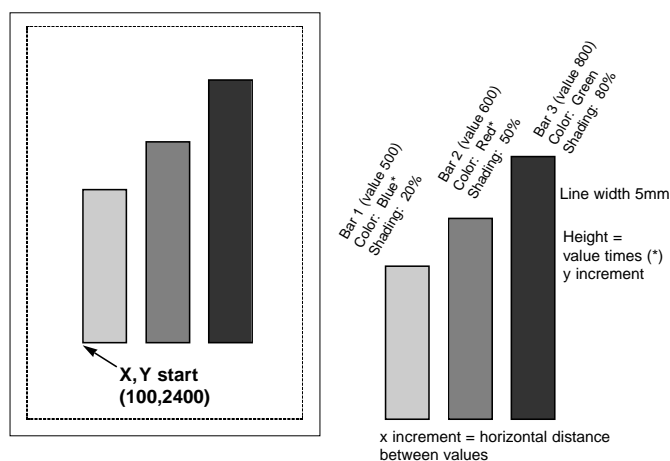

Figure 7
-GH1;100;2400;300;1;100;3;500;600;800 draws three bars. If the attached printer is a PCL color printer, the first bar will be blue, the second red, and the third green. The bars will be shaded 20%, 50%, and 80% respectively (Figure 7).